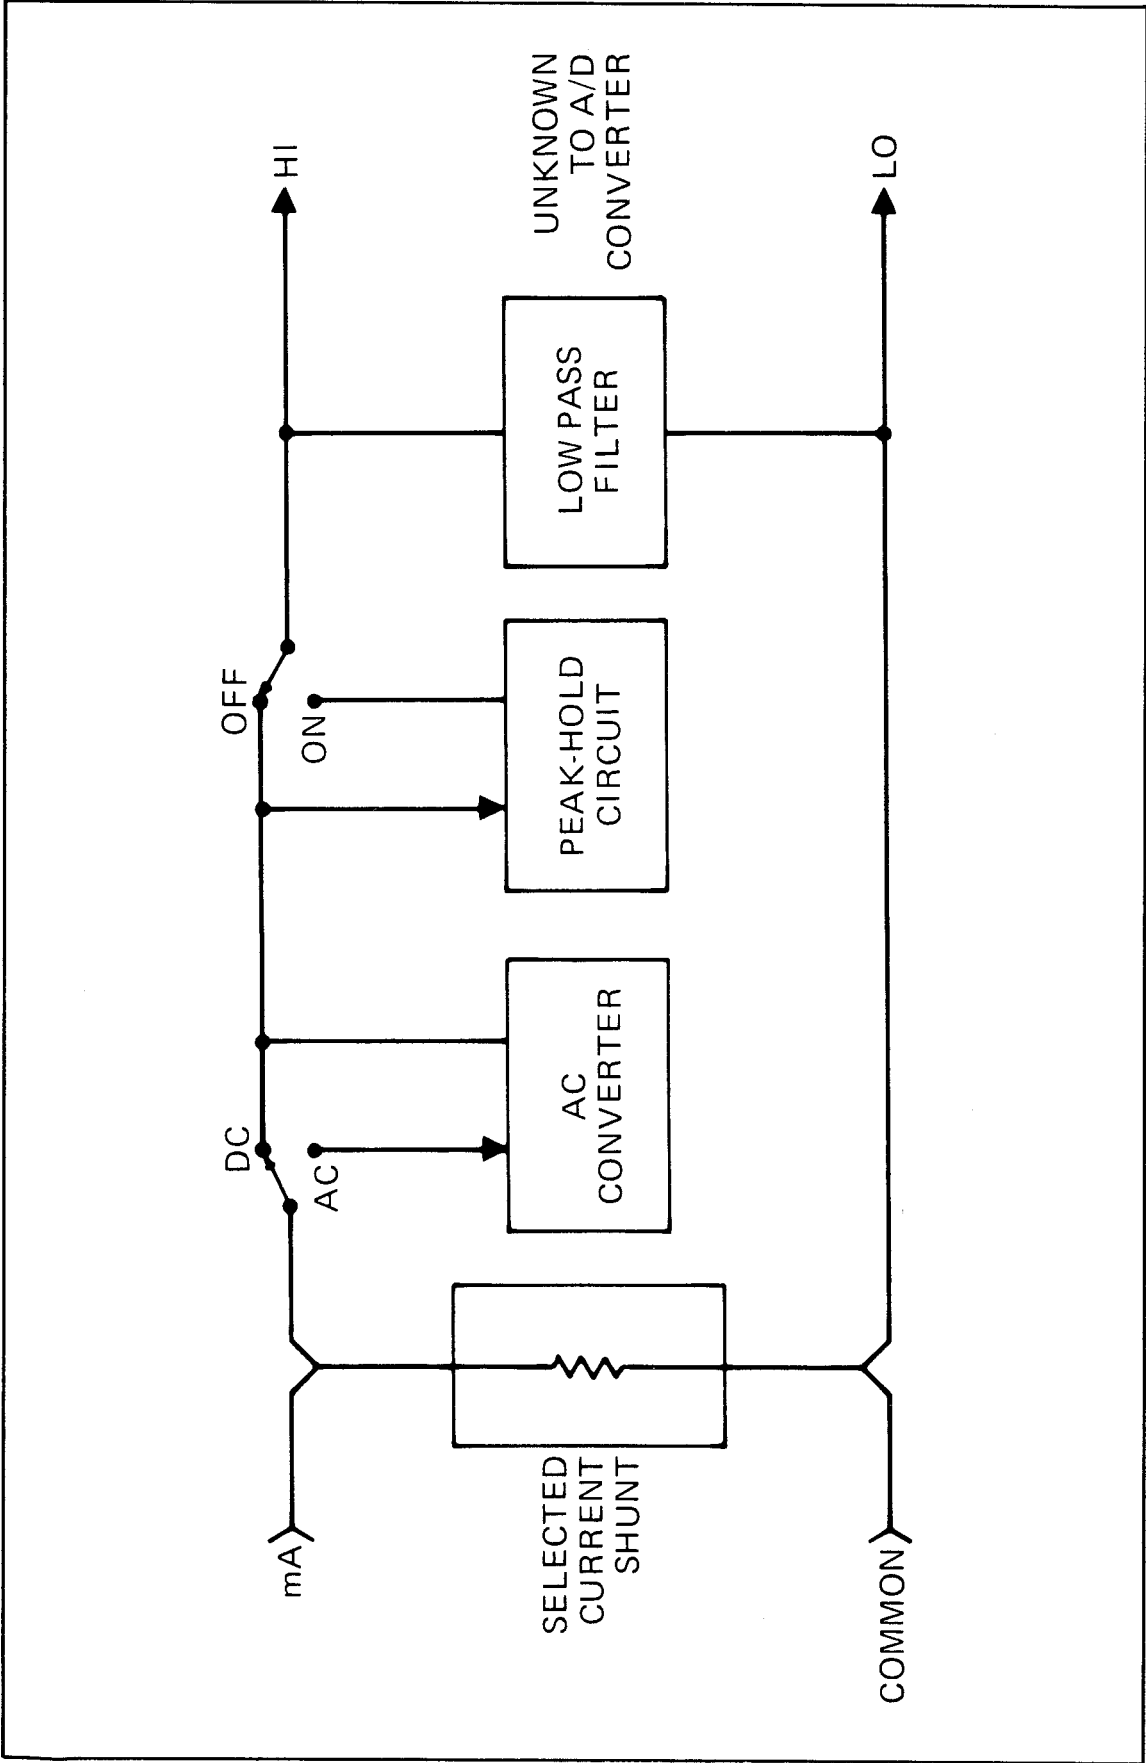

Figure 3-5. Current Measurement
3-17. Current measurements are made using a fuse protected, switchable, current shunt (0.1 Ω , 1 Ω , 10 Ω , or 100 Ω) to perform the current-to-voltage conversion required by the a/d converter (Figure 3-5). The voltage (IR) drop produced across the selected shunt may be either ac or dc. If the input current is dc and the DC function is selected, the IR drop is passed through a low-pass filter, and presented as the unknown input to the a/d converter. However, if the input current is ac and the AC function is selected, the IR drop is rectified by the ac converter. If the PEAK HOLD switch is at the OFF position, the dc signal from either the ac converter or the current shunt is routed through a filter to the a/d converter. This unknown input voltage to the a/d converter is proportional to the current passing through the current shunt.